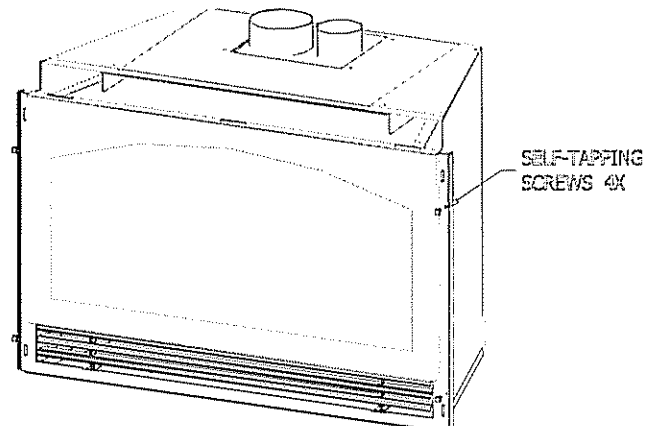

Figure F-1
1. SECURE THE MASONRY SIDE PANELS: With the panels 'outside' the flange at the bottom, align the holes in the masonry side panels to the holes in the face of the insert and secure with 4 - sheet metal screws (2 ea side), see Figure F-1.